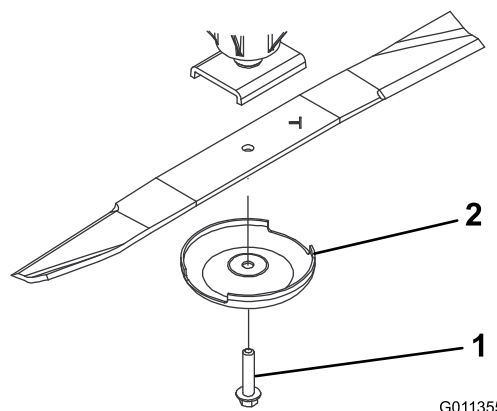

Figure 66
3. Remove the blade bolt, anti-scalp cup, and blade from the spindle shaft (Figure 66).